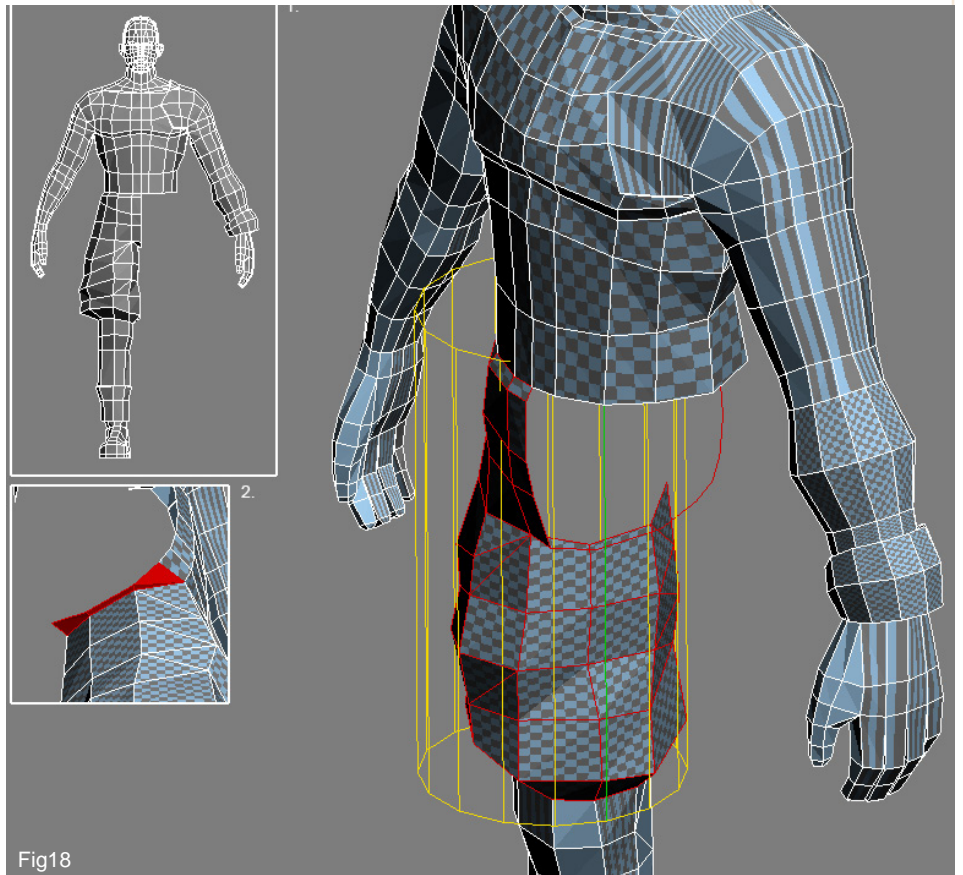

Fig18
18. Now it is time to deal with the limbs. As you saw with the head any mapped geometry that is duplicated retains its mapping co-ordinates and so to save time delete one complete leg from the waist down (inset 1 in Fig 18). Now select all the poly's that make up the trousers barring the three quads under the groin (inset 2). Apply a Cylindrical map making sure to click on Fit and then rotate the gizmo so the green line is aligned with the inside edge as closely as possible (see main image). Then Unwrap this section exactly as we have done before. The basic procedure that will be repeated throughout this tutorial is to select poly's in sub-object mode, apply the UVW Mapping modifier followed by the Unwrap UVW. Then apply another Edit Mesh on top of the stack and when the stack gets a little too big just collapse it – you will not loose any of the mapping!